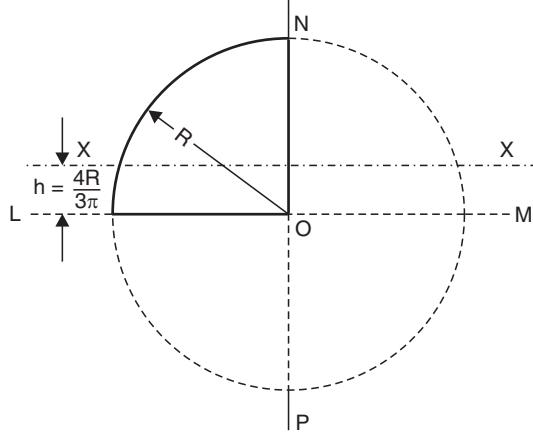

Fig. 8.15
**7. Moment of inertia of a quadrant.** Refer to Fig. 8.15. Let  $RON$  be a quadrant of a circular plate of radius  $R$ .